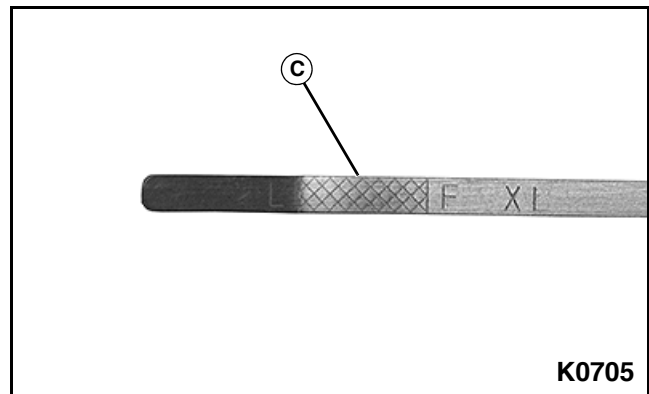

Figure 5-8
- Check engine oil level, making sure that the level lies between the L and F marks on the dipstick (C). **See Figure 5-8.**